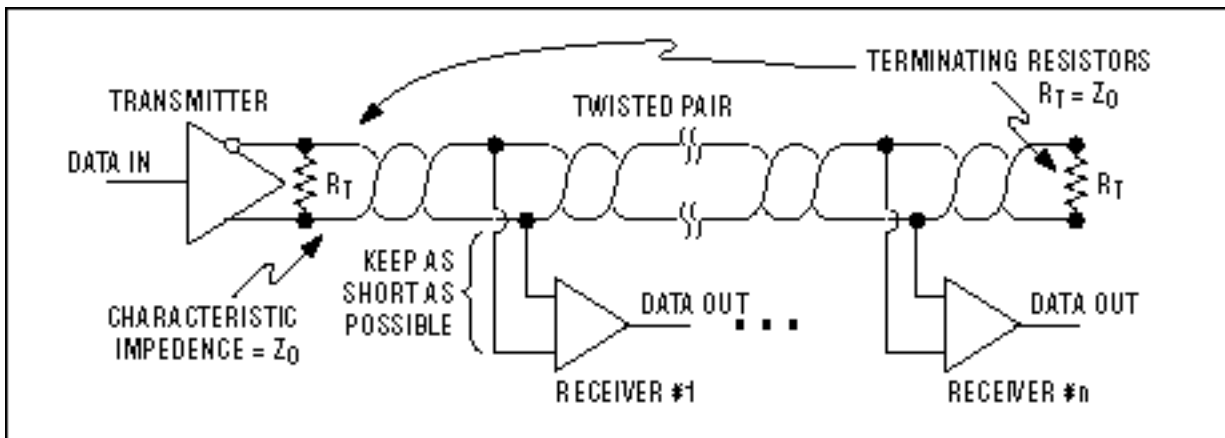

Figure 7. A one-transmitter, multiple-receivers RS-485 network.
**Figure 7** shows a one-transmitter multiple-receivers network. Here, it is important to keep the distances from the twisted pair to the receivers as short as possible.
**Figure 9** shows a multiple-transceivers network. As with the one-transmitter and multiple-receivers example in Figure 7, it is important to keep the distances from the twisted pair to the receivers as short as possible.